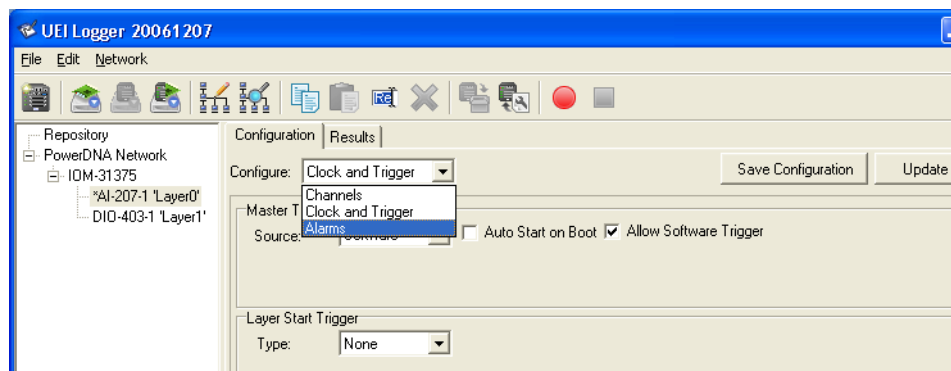

Figure 2-23. Selecting Alarms
- STEP 1:** In the Configure window, pull down the menu and select Alarms, as shown in **Figure 2-23**.